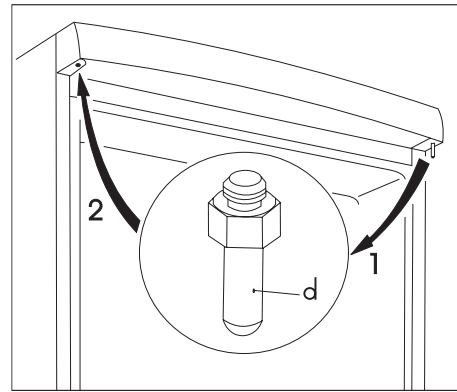

fig. 1.
9. Unscrew the top door hinge pin (d) of the refrigerator then screw it back on the other side. (fig.1)